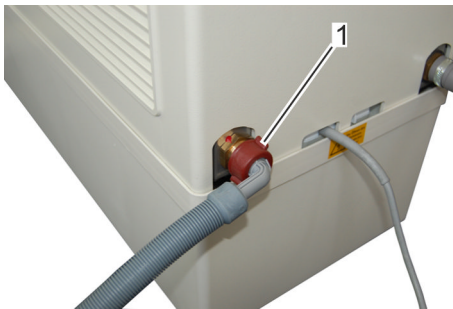

Fig. 80: Removing the safety pressure hose from the humidifier
3. ➤ Rotate the safety pressure hose twist-lock located at the water supply connection (Fig. 80/1) counterclockwise and remove.